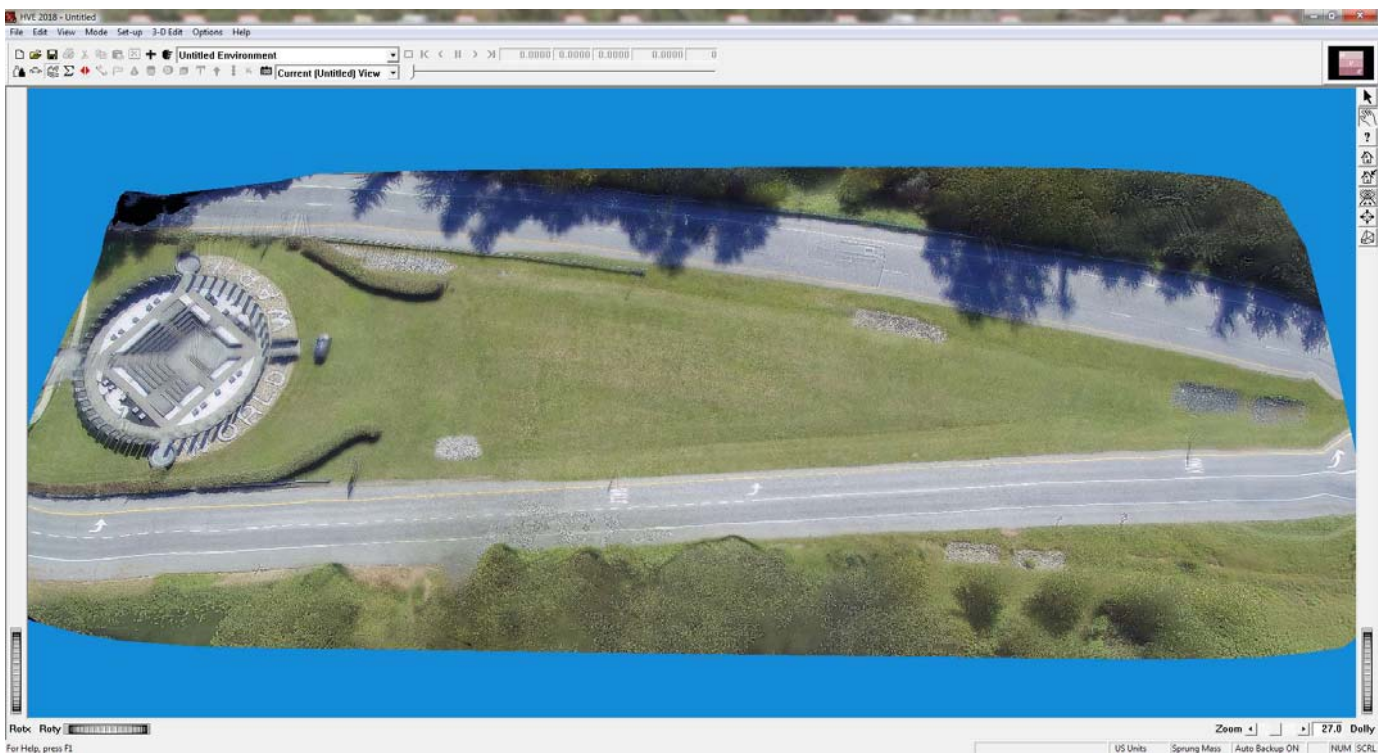

Figure 1 - Meshed point cloud terrain displayed in the Environment Viewer.
- Press *OK*. The terrain is displayed in the Environment viewer. See Figure 1.